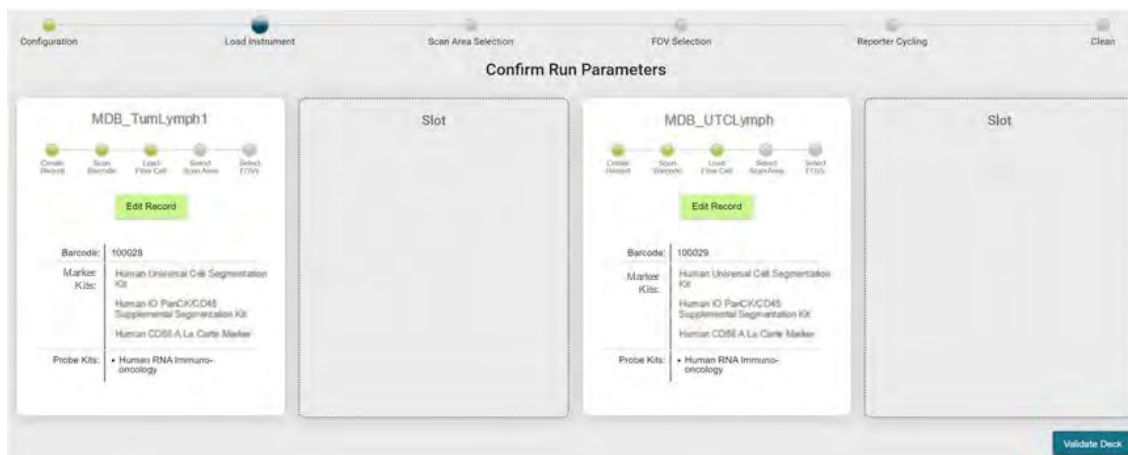

Figure 27: Confirm Run Parameters
- Once all four (4) bottles have been changed**, all bottle status cards will show as **ready**.
- Once the door is closed, **confirm run parameters** for all flow cells and select **Validate Deck** (see Figure 27).